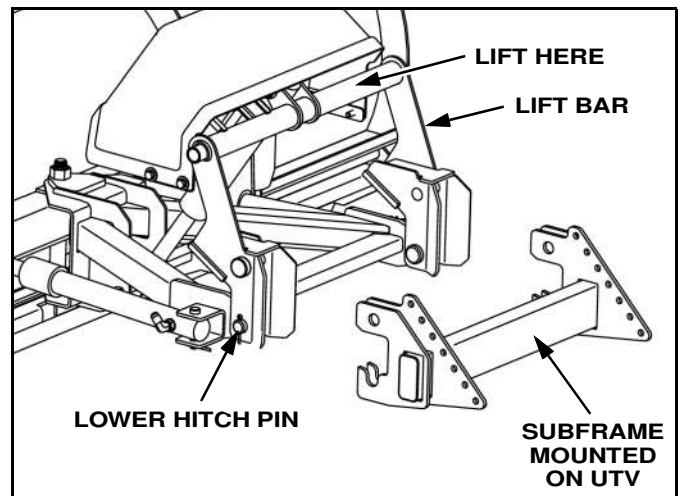

Figure 1-15
6. Disconnect power harness and replace protective caps. Grab tube on lift bar. Lift rear of plow and pull away from UTV. (See Figure 1-15).